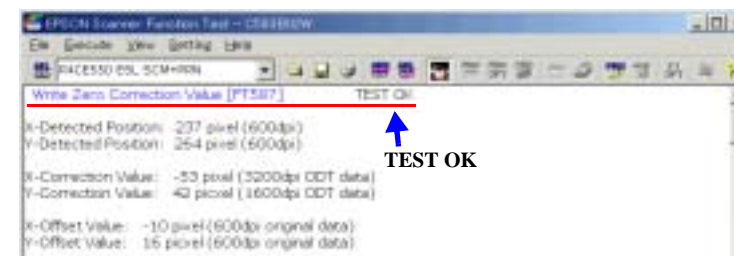

Figure 5-17. OK Screen
5. On completion of writing, the check screen appears. Confirm that “TEST OK” is displayed on the top line. If “TEST OK” is not displayed, make the adjustment again. (See Figure 5-17)